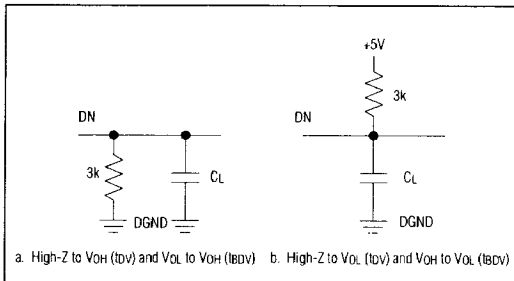

Figure 1. Load Circuits for Access Time
**Note 9:** t16 and t21 are measured with the load circuits of Figure 1 and defined as the time required for an output to cross 0.8V or 2.4V.